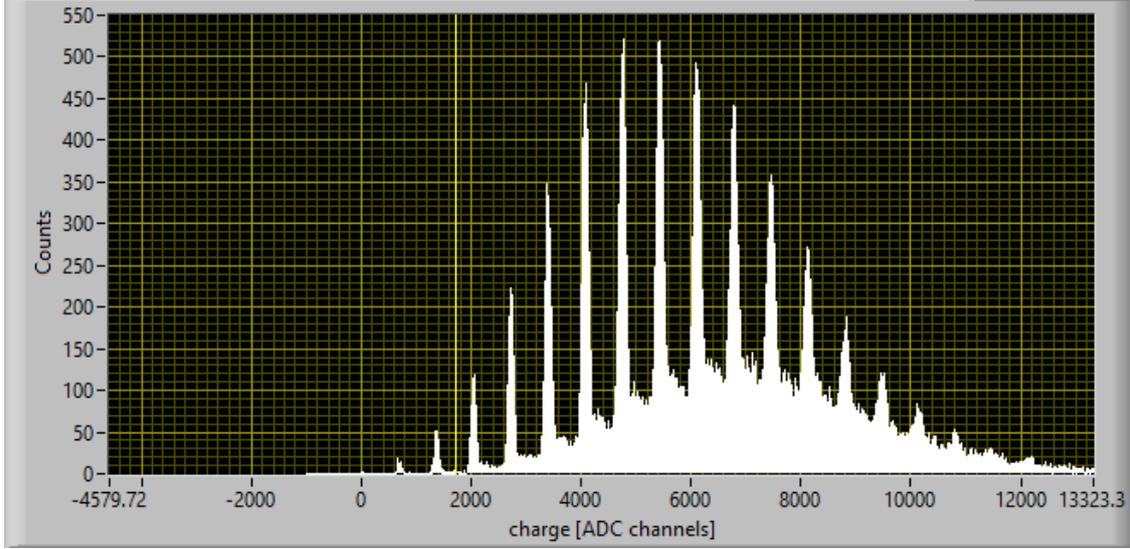

Figure 25: Multi-photon peak spectrum at different LED intensities
- Switch to the Histogram tab. It is possible to run the data acquisition based on time or number of events. The longer the run time and/or the higher number of events selected will lead to better data acquisition and therefore better analysis. Fig. 25 shown below is an example set of data run for an appropriate amount of time.
where $ADC_{c.r.}$ is the ADC conversion factor and is equal to $.4192 \times 10^{-15}$ at $25^\circ C$, $\Delta PP(ADC_{ch})^*$ is the horizontal distance between peaks of the histogram in Fig. 25, and e is the elementary charge.